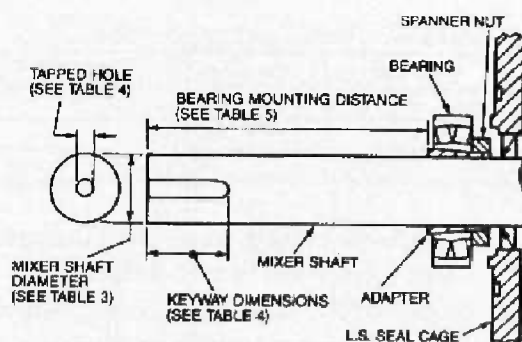

Figure 6 — Mixer shaft dimensions
- a. Check the Mixer shaft diameter. Refer to Fig. 6. Mixer shaft diameters which can be accommodated by the tapered bushings are shown in Table 2.
- b. Check the Dimensions of the Mixer shaft tapped hole and keyway. Refer to Fig. 6. Dimensions shown in Table 3 for the depth of the tapped hole.
- a. Refer to Fig. 6. Protect the seal in the seal cage (tank adapter flange) from the sharp edges of the keyway by taping over the keyway with common transparent tape and applying a light coat of oil to the shaft.